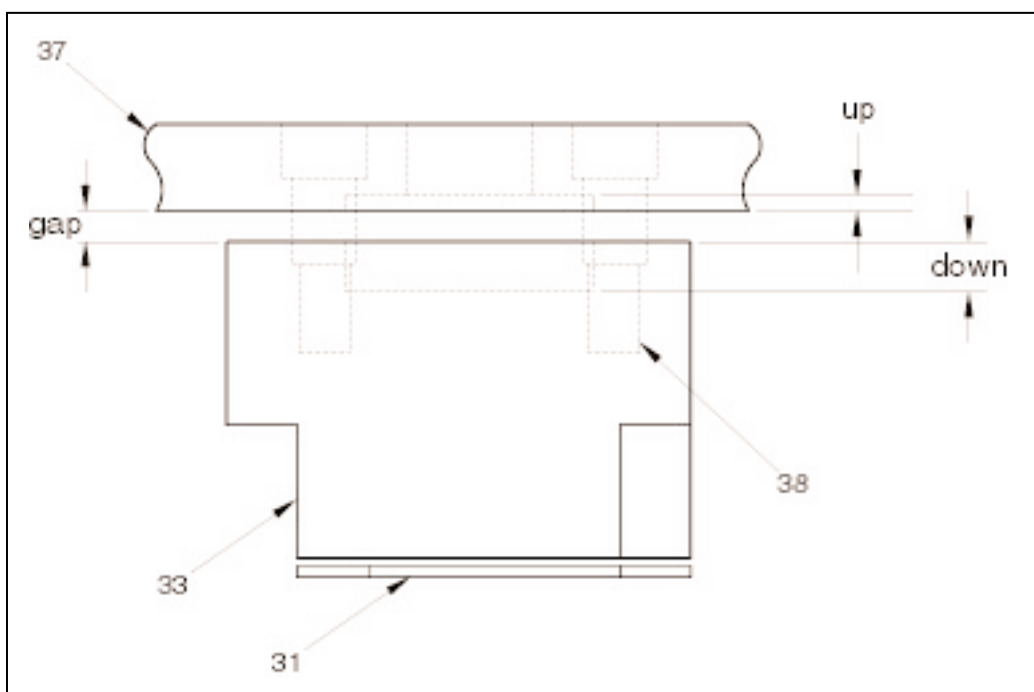

Figure 16.3 ROLLER/SPRING BRACKET.
2. Measure upper pocket (up) (figure 16.3).
3. Measure lower pocket (down) (figure 16.3).
4. Assemble spreader (37) and bracket (33) with shoulder bolt (38).
5. Measure gap (figure 16.3).